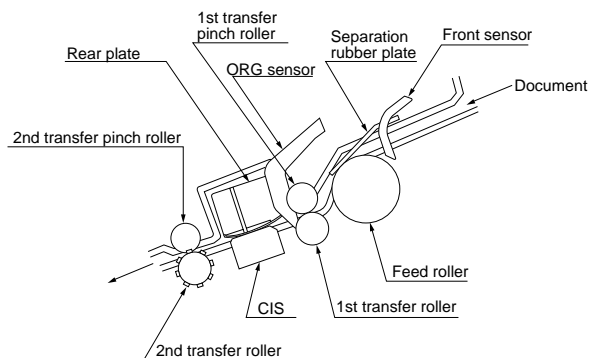

Fig. 1
- As shown in Fig.1, the document set in the hopper (the front sensor is on) is fed with the let out roller and paper feed roller which rotate together with the pulse motor.